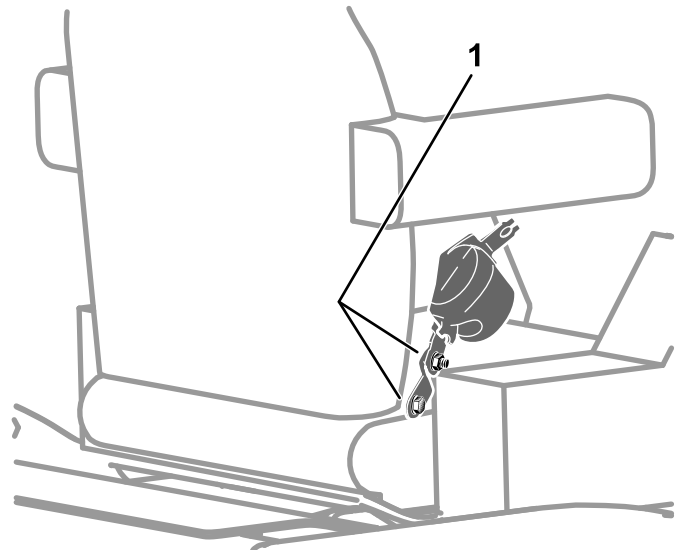

Figure 119
2. Check that the bolts and nuts that attach the seat-belt retractor and buckle to the seat are torqued to 47 to 61 N-m (35 to 45 in-lb); refer to Figure 119.